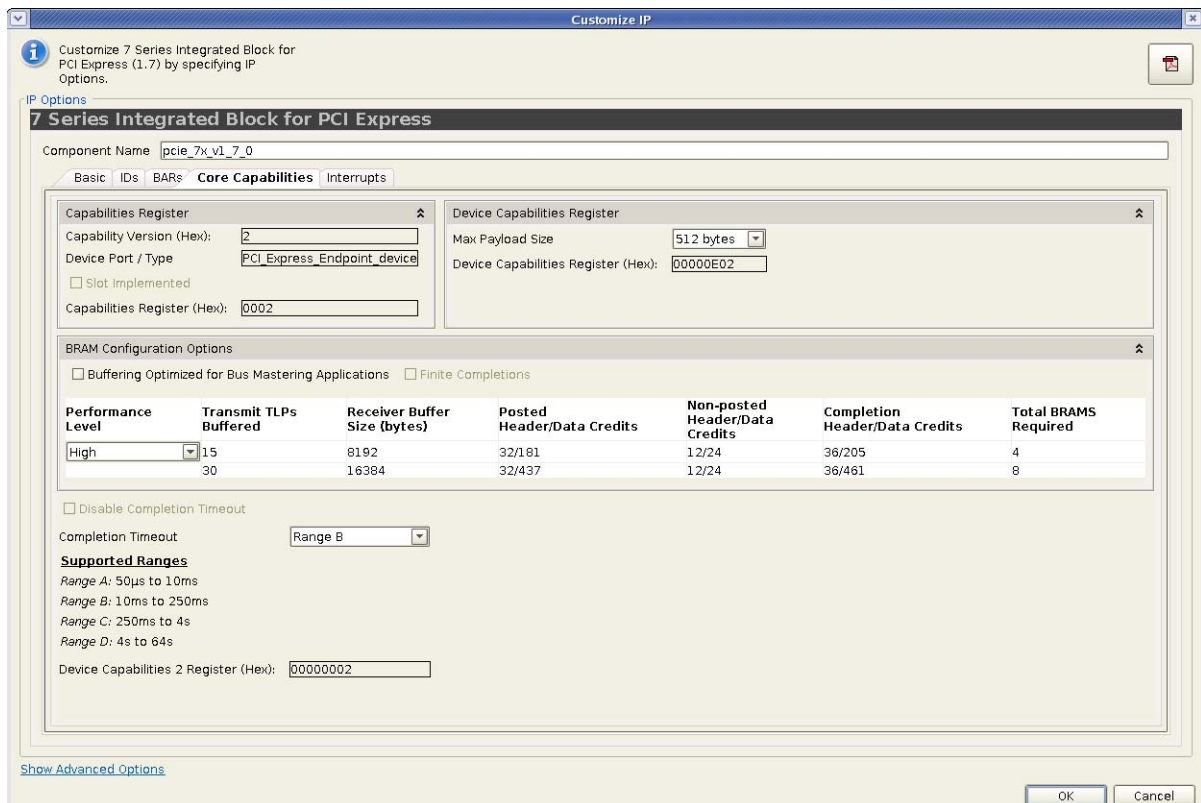

Figure 4-4: Core Capabilities Parameters
The Core Capabilities parameters shown in Figure 4-4 is used to customize the IP initial values, class code, and Cardbus CIS pointer information.
- **Attention Button Present:** Indicates the Attention Button is implemented. When set, indicates that an Attention Button for this slot is implemented on the chassis. This option is disabled when "Device_Port_Type" is not "Root Port of PCI Express Root Complex." This is enabled only when is selected (see Figure 4-4).